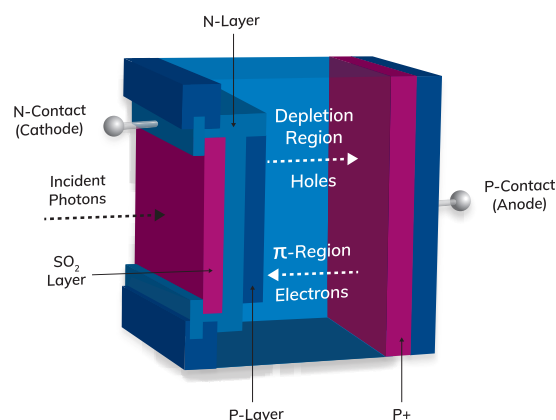

Figure 2.6. APD.
**APDs**—An APD is a highly sensitive semiconductor electronic device that exploits the photo electric effect to convert light to electricity (Figure 2.6). APDs are similar to PMTs in that they also amplify the emission signal resulting in enhanced sensitivity through signal amplification. However, APDs are quite different from PMTs. The most important difference between APDs and PMTs is their quantum efficiency.